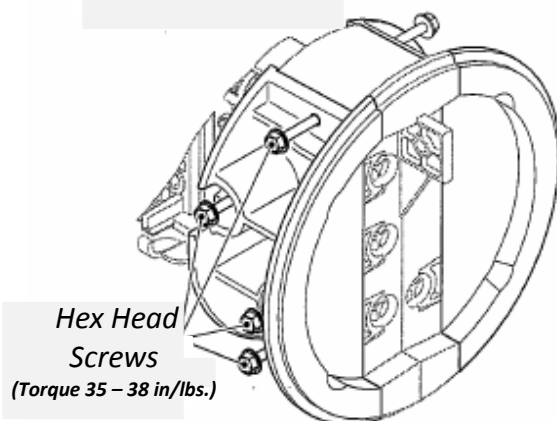

Figure 12 – Tightening Sequence for C-Halves
- 16.02** Apply lubricant to the gasket surfaces of the C-Half sections and tighten firmly the four (4) captive hex head bolts. Use a 216 style tool (or 3/8" socket) and tighten inside bolts first then tighten outside bolts. Refer to **Figure 12 – Tightening Sequence for C-Half Sections, and Photo 15 – Lubrication of C-Half Section Gaskets, and Photo 16 – Tightening of C-Halves**.